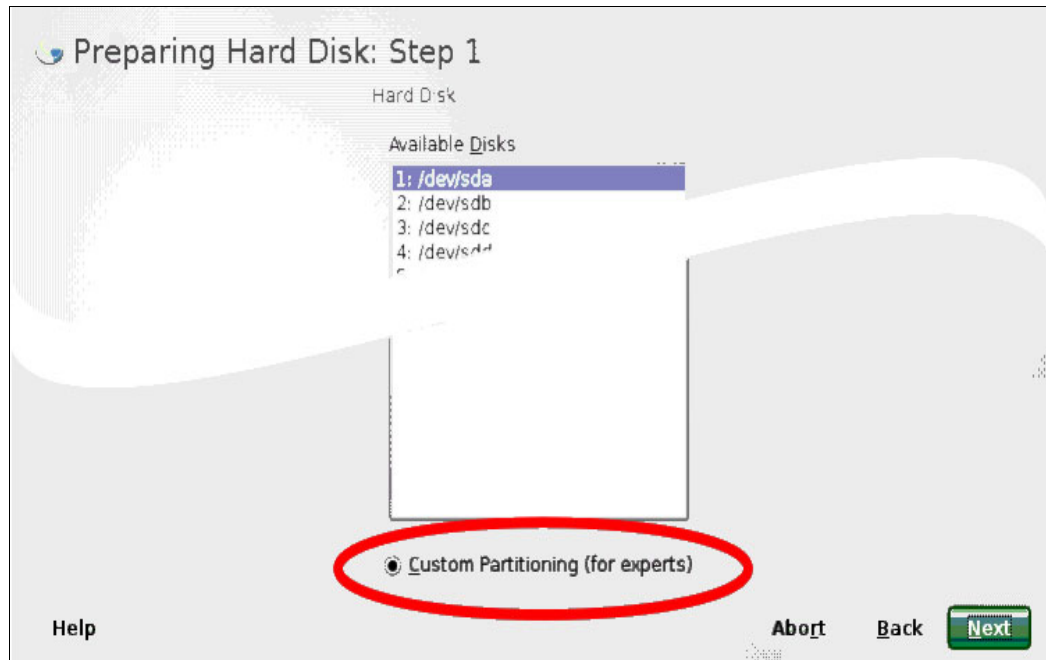

Figure 6-4 Preparing Hard Disk: Step 1
2. In the Preparing Hard Disk: Step 1 panel (Figure 6-4), select the **Custom Partitioning (for experts)** button. It does not matter which disk device is selected in the Available Disks field. Then click **Next**.
- Click the **Back** button until you see the Preparing Hard Disk: Step 1 panel (Figure 6-4 on page 120).